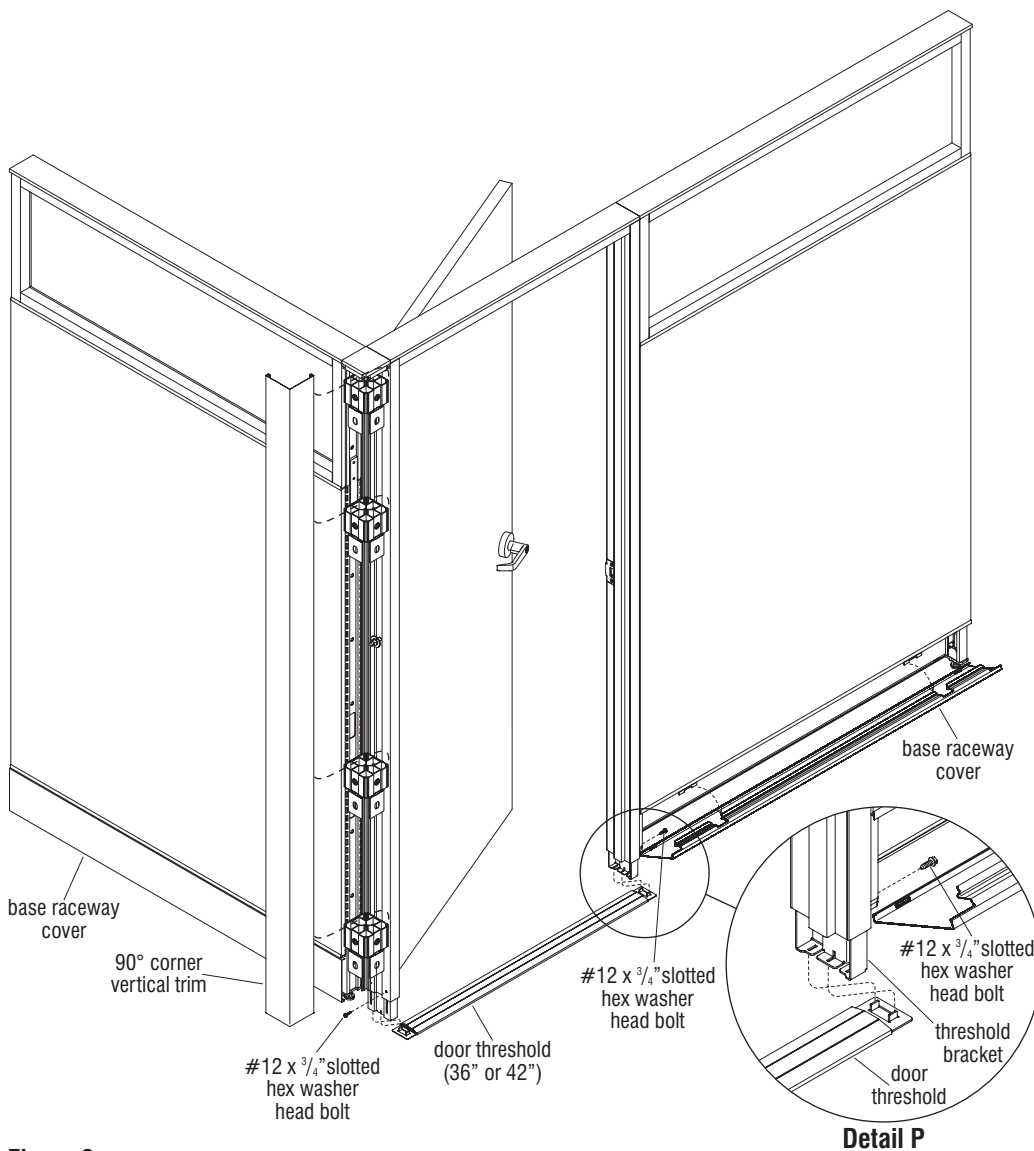

Figure 9
22. Begin threshold installation by first removing the 90° corner vertical trim from the hinge side, then flip open the base raceway cover from the panel frame adjacent to the latch side (Figure 9).
23. Locate the previously installed threshold brackets at the bottom of the vertical frame posts (see Figure 1) and remove retaining screw (#12 x 3/4" slotted hex washer head bolt) at each threshold bracket (Figure 9).
24. Position the threshold as illustrated at the hallway side. Using a screwdriver to assist, lift each threshold bracket while sliding the threshold into position under the brackets. Three slots are in each threshold bracket, but two are used to help align the threshold to one or the other side of the door frame, depending on door closed location. Position the threshold so it is centered under the closed door location, then allow each threshold bracket to slide down so the slots drop down over the two tabs at the end of the threshold to align it (Figure 9 & Detail P).
25. After both threshold brackets have dropped down and nested over the tabs on each end, insert and re-tighten the #12 x 3/4" slotted hex washer head thread-cutting screw into the hole on backside of each vertical door frame post to lock the threshold in place (Figure 9 & Detail P).